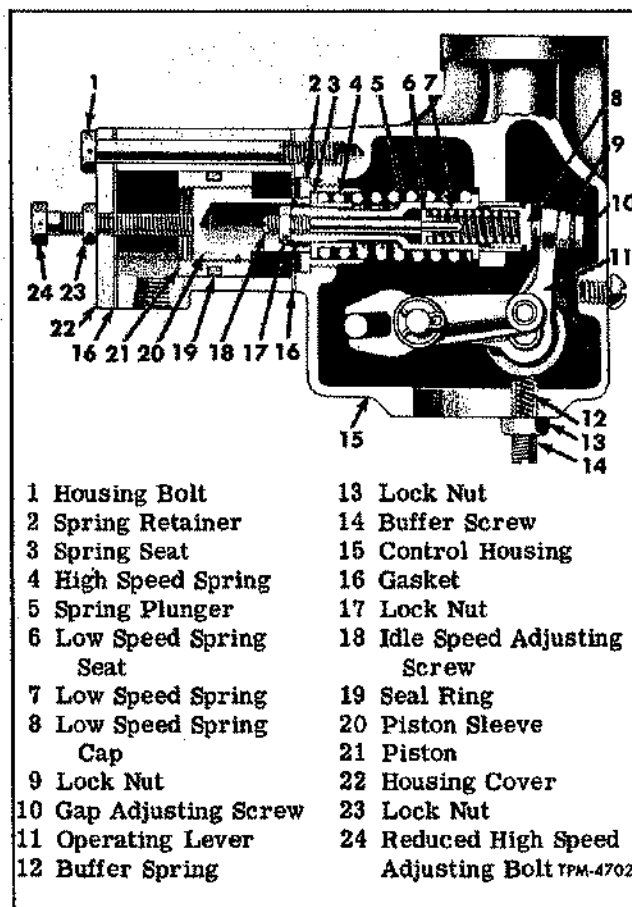
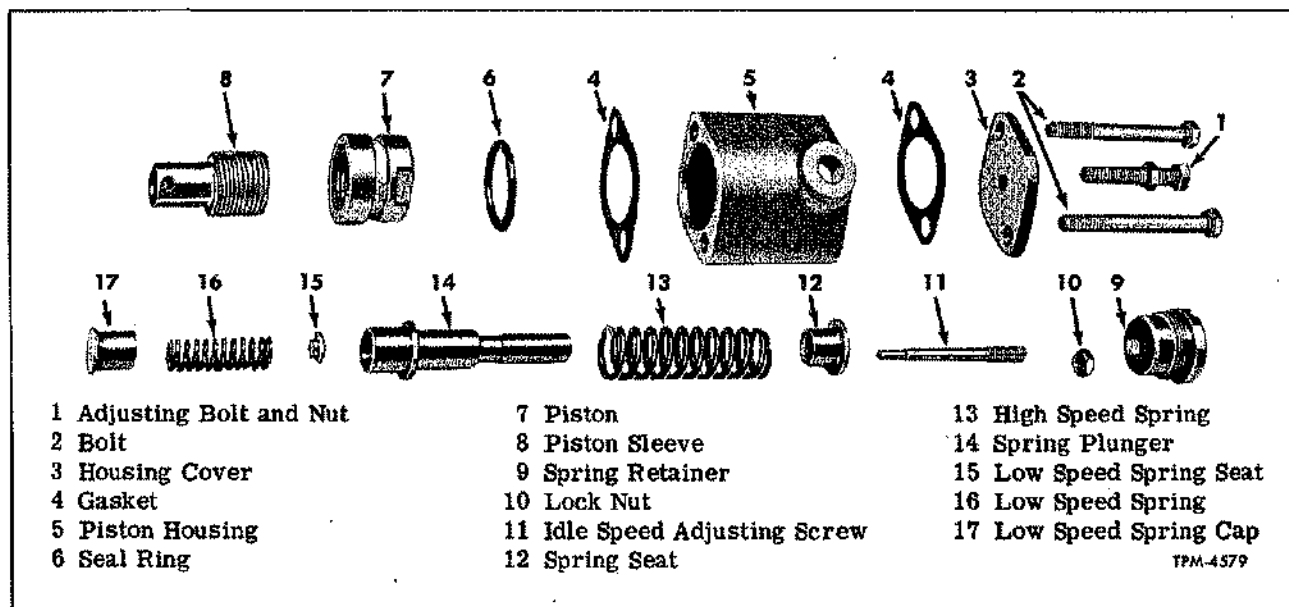

Figure 61—Economy-Range Governor Control Mechanism
Figure 62—Relative Location of Governor High and Low Speed Springs, Plunger, Seats, and Piston
A limiting speed economy-range type governor is used on some trucks. This governor is essentially a limiting speed type and in many respects is the same as previously described under heading "Limiting Speed Governor." However, an air operated piston is added, which provides two high speed ranges (fig. 61).
Governor springs, plungers, seats, and retainers (fig. 62) located in control housing (fig. 61) can be removed and installed while governor is installed or at bench, as follows:
3. Remove spring retainer nut from control housing, using nut wrench J-1652-01. Spring seats, springs, plunger, adjusting screw, and spring cap can now be removed from control housing. Refer to figure 62 for arrangement of these parts.
Refer to figure 62 and proceed as follows: